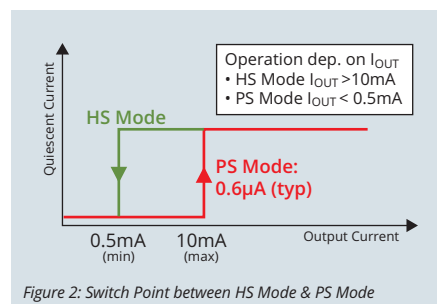
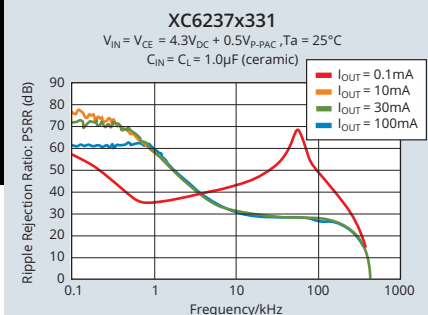

Figure 2: Switch Point between HS Mode & PS Mode
Figure 3: Power Supply Rejection Ratio (PSRR)
The XC6237 incorporates our Green Operation function (GO). GO automatically switches between a high-speed mode (HS) and a power save mode (PS) depending upon the load current level. The switch point is fixed internally. Figure 2 below shows the switch point between HS mode & PS mode. Our GO circuit automatically reduces quiescent current at low output loads ($I_{OUT} < 0.5mA$) down to only 0.6µA, whilst offering extremely fast ripple rejection of 60dB@1kHz in HS mode (see Figure 3).